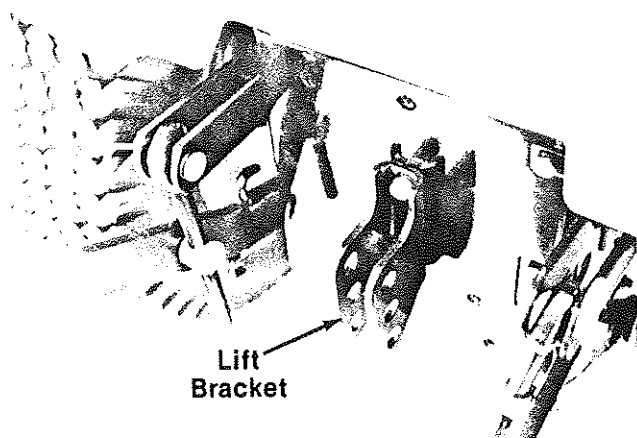

FIGURE 9.
10. Loosen, but do not remove, the hex bolt which secures the lower end of the lift bracket to the three point hitch assembly. Remove the hex bolt and washer used to secure the top of the lift bracket. Pivot the bracket down as shown in figure 9, and secure with hex bolt and washer just removed. Retighten all bolts securely.